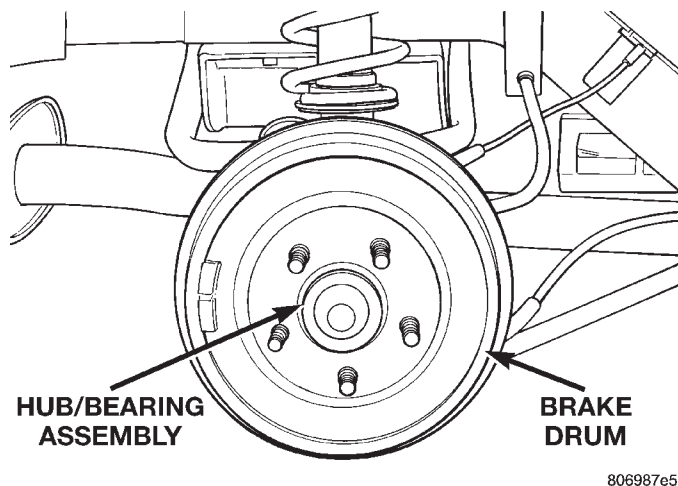

*Fig. 58 Brake Drum And Hub And Bearing Assembly*
(3) Remove the rear brake drum from the rear hub and bearing assembly (Fig. 58).